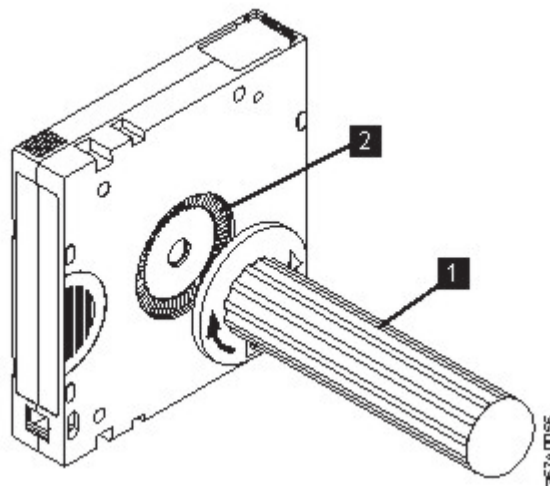

Figure 97. Rewinding the tape into the cartridge
5. To rewind the tape, insert the cartridge manual rewind tool (**1** in Figure 97) into the cartridge's hub **2** and turn it clockwise until the tape becomes taut.